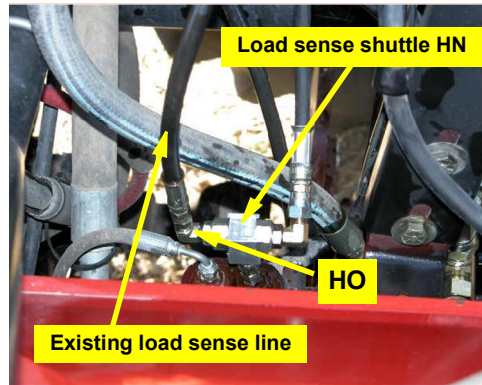

Figure 5b-ii: Installed load sense shuttle. Load sense hose connection is described at step 6c.
- c. Install the load sense shuttle by connecting adapter **HQ** to **HR**. Connect the load sense line that you disconnected from the valve block to the load sense shuttle adapter **HO** (Figure 5b-ii).